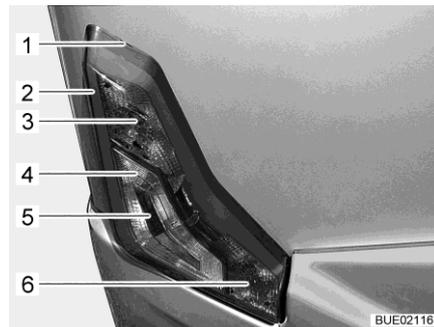

Fig. 166 Rear lights
- Insert flat tool into notch (Fig. 166,1) and carefully lever off the housing.